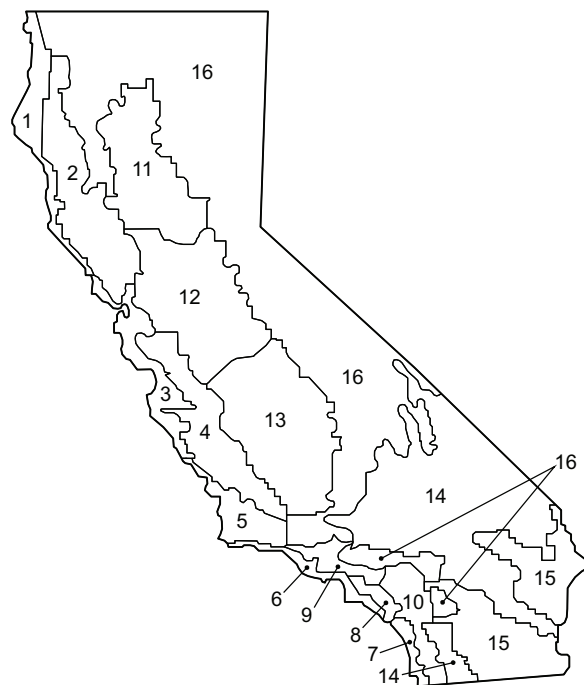

Fig. 68 — California Title 24 Zones
b. Refer to Fig. 68 for map of California Title 24 zones.